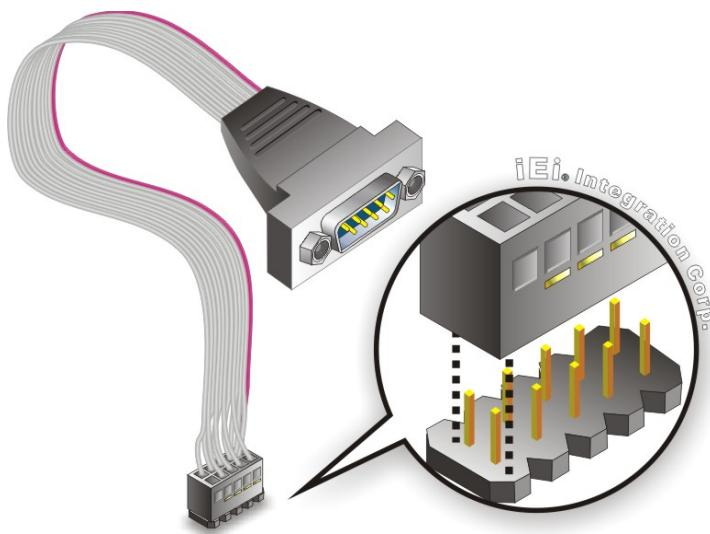

Figure 4-21: Single RS-232 Cable Installation
Step 2: Insert the cable connector. Insert the connector into the serial port header. See **Figure 4-21**. A key on the front of the cable connector ensures the connector can only be installed in one direction.